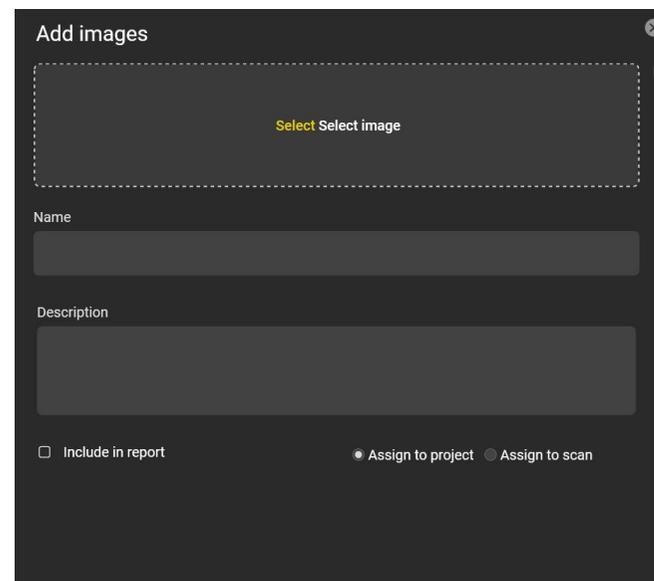

Fig. 25 Browsing through folders to Add Images
4. Browse through the folders location (or drag and drop) to select the Images you want to add (Fig. 25),
5. Enter the Image name (Fig. 25),
6. Enter a Description of the image (Fig. 25),
7. Select the Option to Include in Report, if Image should be included in the final Report (Fig. 25),
8. Select if the Image should be included in a Specific Scan or in the Project (Fig. 25).